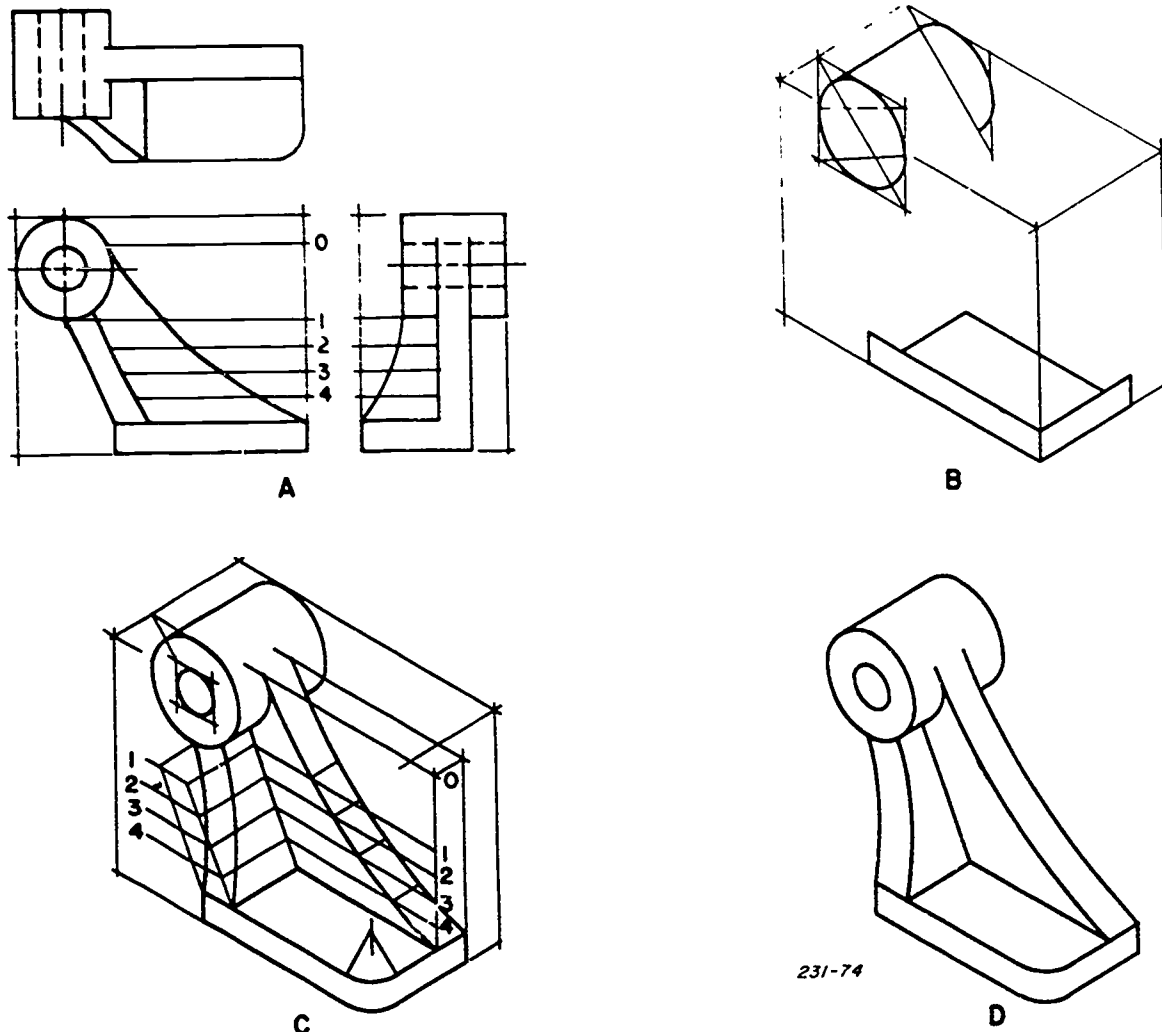

Figure 4-64. Construction of an object.
**Construction of an object containing curves.** Figure 4-64 shows the steps in constructing an isometric drawing of an object which is composed of a cylinder and curved surfaces. Study the steps shown in the illustration. Use your dividers to compare measurements, and you should see the principles of this particular method.
First box in the object as shown in part A of figure 4-64. Then mark off points on the object and draw horizontal lines from these points to the box. Using the dimensions of the orthographic views, draw an isometric box as shown in part B. Then draw the cylindrical portion and the base of the object. Next, as shown in part C, lay out the isometric lines representing the horizontal lines drawn on the orthographic views. Use these lines to locate the two curves and webs.